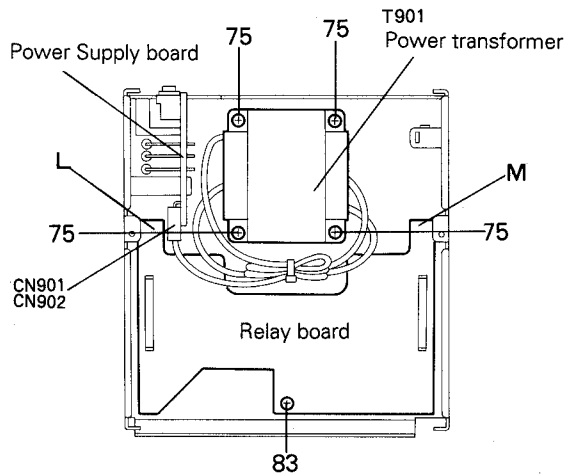

Fig. 7-13
■ **Relay board** (Fig. 7-13)
1. Remove a screw (83) retaining the Relay board.
■ **Power transformer** (Fig. 7-13)